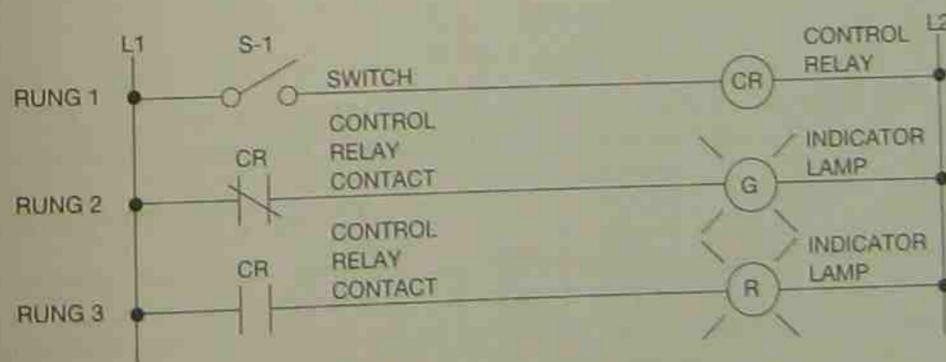

Figure 7-4 Three Rung Ladder Diagram
Figure 7-4 shows a control relay (CR) controlled by a switch (S-1) on Rung 1 of the ladder diagram. Rung 2 shows a normally closed (N.C.) control relay contact in series with a green indicator lamp. Rung 3 shows a normally open (N.O.) control relay contact in series with a red indicator lamp.
The NOT gate functions like the normally closed contacts in Rung 2 for the three-rung ladder diagram in Figure 7-4. As long as the control relay (CR) in Rung 1 remains deenergized, or OFF, the normally closed CR contact in Rung 2, that controls the green indicator lamp, will be TRUE and the indicator lamp will be ON. Figure 7-18 shows a normally closed CR contact controlling a lamp and the truth table for the circuit.